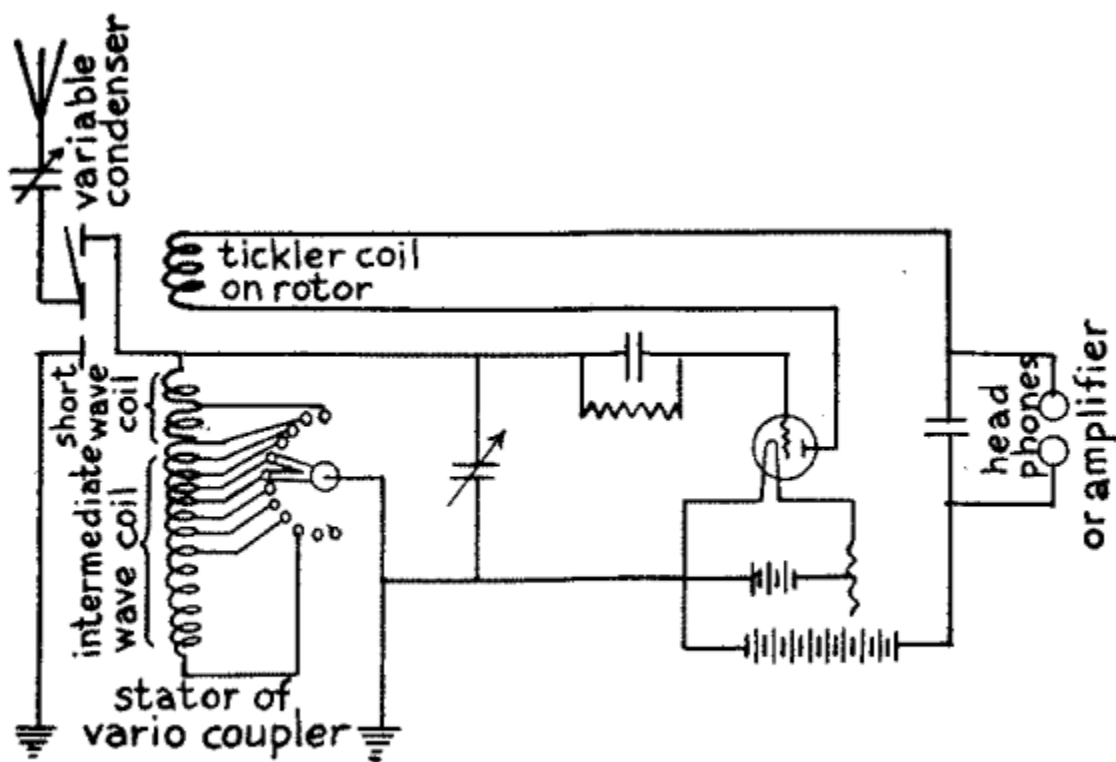

FIG. 58.—Wiring Diagram for Intermediate Wave Receptor with one Variocoupler and 12 section Bank-wound Inductance Coil.
When the variocoupler is adjusted for receiving very long waves the rotor sets at right angles to the stator and, since when it is in this position there is no mutual induction between them, the tickler coil serves as a loading coil for the detector plate oscillation circuit. Inductance coils for short wave lengths are usually wound in single layers but *bank-wound coils*, as they are called are necessary to get compactness where long wave lengths are to be received. By winding inductance coils with two or more layers the highest inductance values can be obtained with the least resistance. A wiring diagram of a multipoint inductance coil is shown in *Fig. 58*. You can buy this intermediate wave set assembled and ready to use or get the parts and connect them up yourself.
The Parts and How to Connect Them Up.--For this regenerative intermediate wave set get: (1) one 12 section triple bank-wound inductance coil, (2) one variometer, and (3) all the other parts shown in the diagram *Fig. 58* except the variocoupler. First connect the free end of the condenser in the aerial to one of the terminals of the stator of the variocoupler; then connect the other terminal of the stator with one of the ends of the bank-wound inductance coil and connect the movable contact of this with the ground.